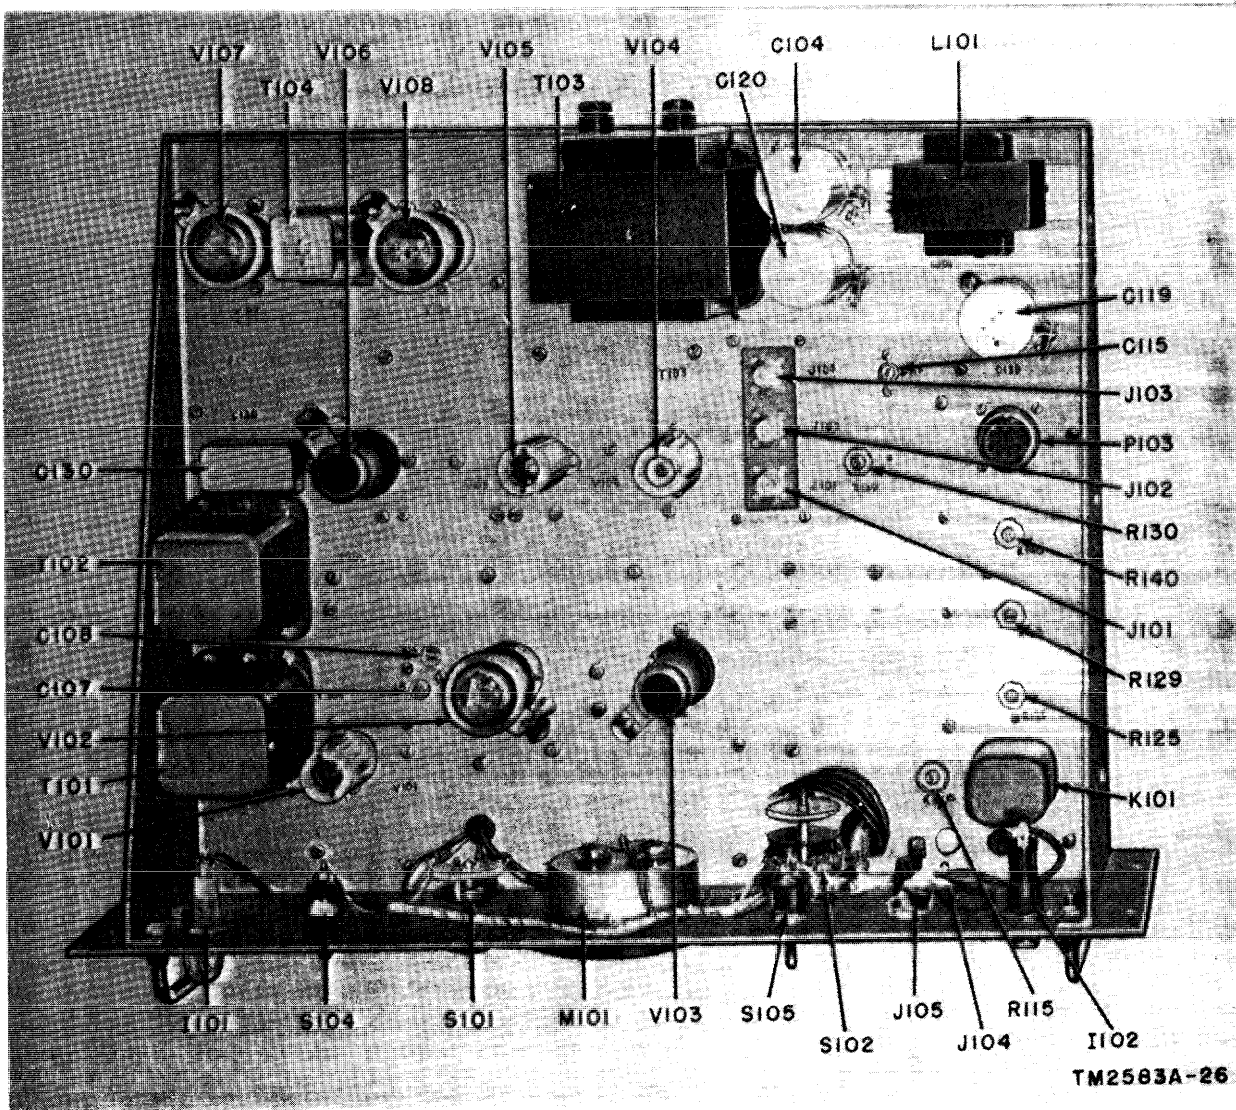

Figure 27. Amplifier chassis, top view.
- (6) Make well-soldered joints because a poorly soldered joint is one of the most difficult faults to find.
- (7) Replace a part exactly in the position occupied by the original part. Pay particular attention to proper grounding when replacing a part; use the same ground as in the original wiring. Failure to observe these precautions may result in decreased output or undesirable oscillation.
63. Chocking Amplifier Circuits for Shorts (fig. 27, 28, 29, 30, and 31)